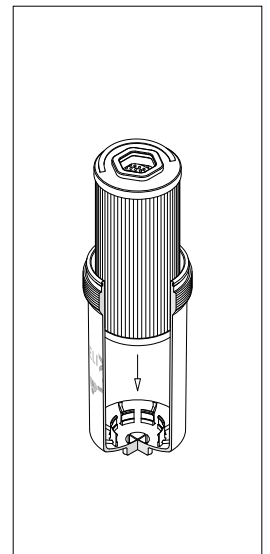

fig. 13
- (Fig. 13) Push the filter element into the bowl until the end cap hooks onto the internal teeth